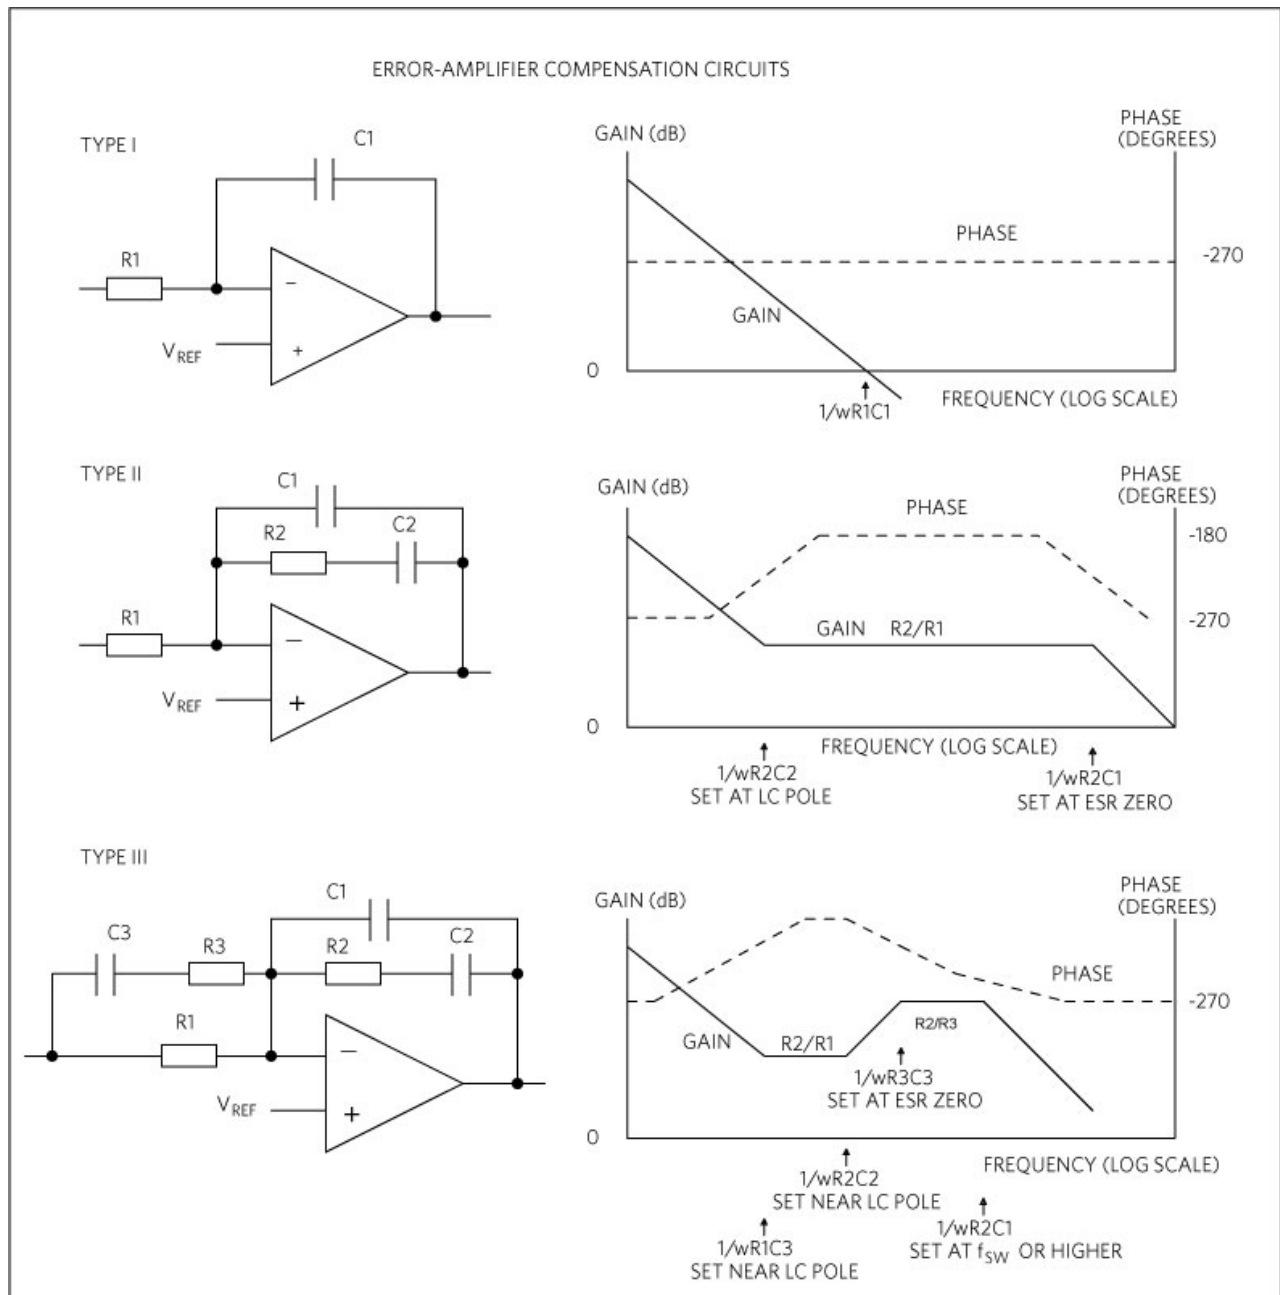

Figure 4. Error-amplifier compensation circuits.
**Figure 4** shows the arrangements. You might recognize the Type I compensator as an integrator with a gain that drops at 20dB/decade from its maximum value at DC. The phase shift is a constant 270 degrees (90 degrees integrator plus 180 degrees from the op amp). The circuit would keep some loops stable but with very poor loop bandwidth.